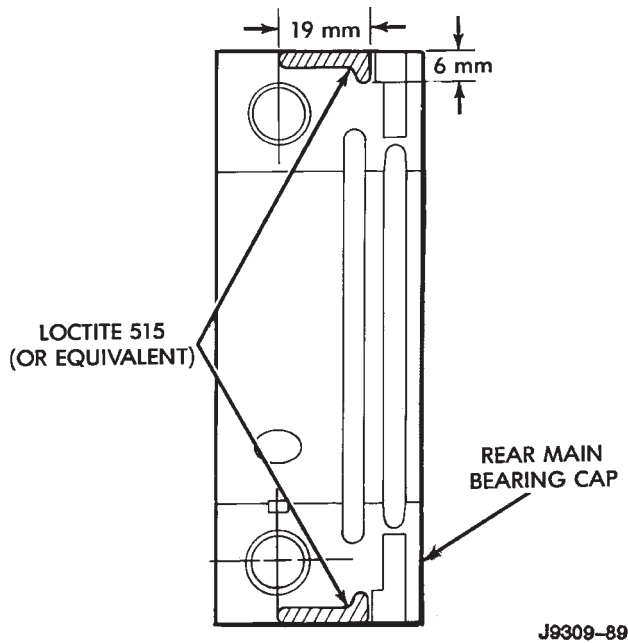

Fig. 8 Location of Loctite 515 (or equivalent)
(7) Position the lower seal into the bearing cap recess and seat it firmly. Be sure the seal is flush with the cylinder block pan rail.
(8) Apply Loctite 515, or equivalent on the rear bearing cap (Fig. 8). The bead should be 3 mm (0.125 in) thick. DO NOT apply Loctite 515, or equivalent to the lip of the seal.